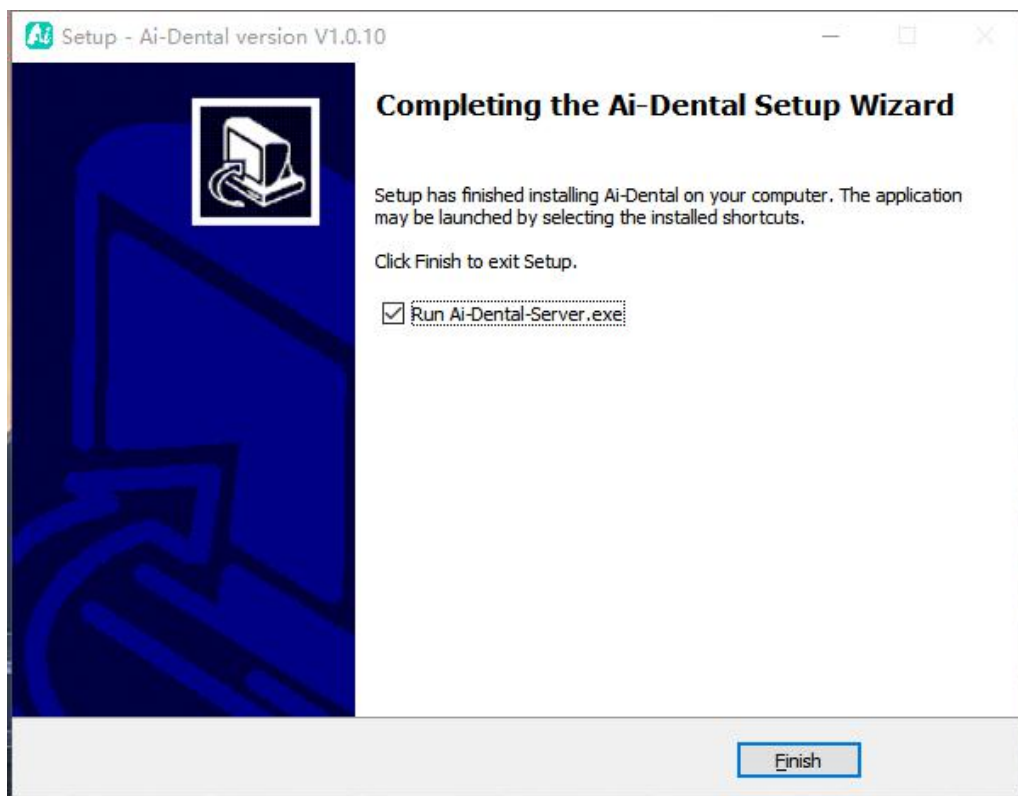

Figure 9
3.1.9 After the software is installed, click the “Finish” button, as shown in Figure 9: